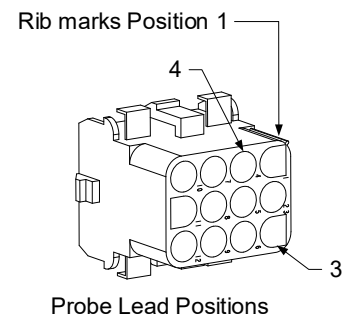

Figure 6
10. Insert the temperature probe leads into the 12-pin connector C-6 (see Figure 6). The red (or yellow) lead goes into position 3 and the white lead into position 4 of the connector.